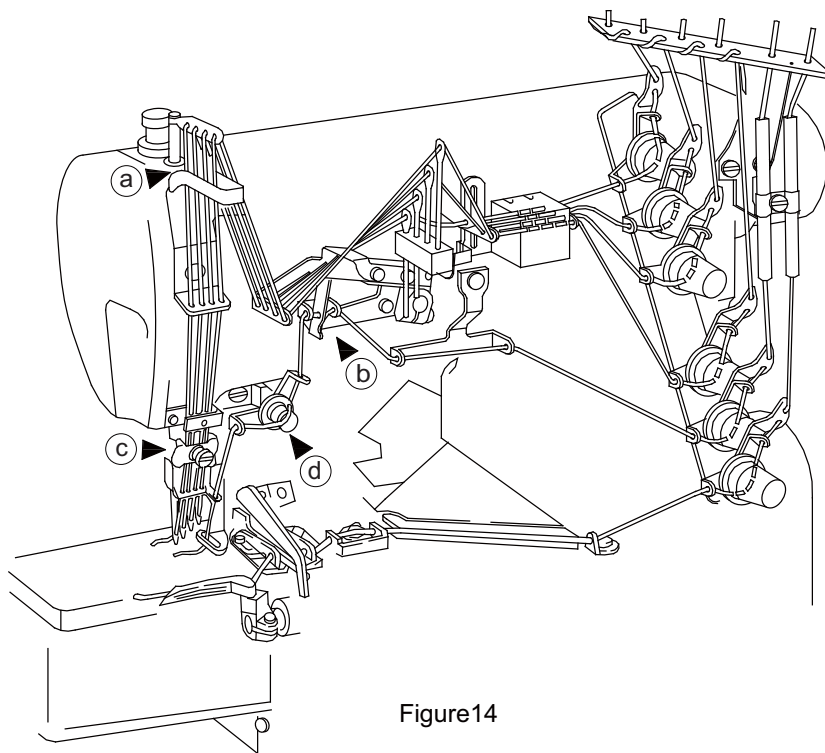

Figure14
Press down the lever, as indicated in Figure 14. The looper thread take-up comes out.
⑥ 如果机器上原来没有线,请参照穿线图进行正确穿线,如图14所示。
Be sure to thread the machine, correctly by referring to the threading diagram, as shown on figure14.